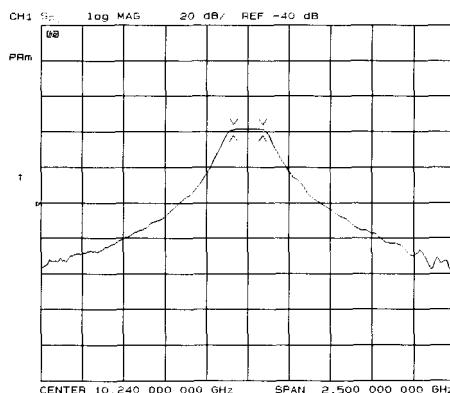

Figure 2-44. Example Single Points Limit Line
2. To designate a **single** point Limit **line**, as shown in **Figure 2-44**, you must **define** two pointers;